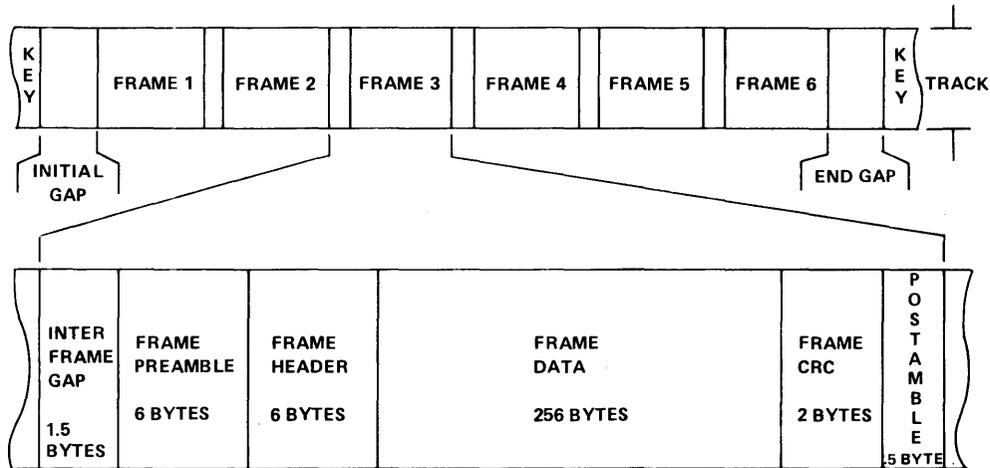

FIG. 7 DC600HC Data Block Format
**DATA BLOCK FORMAT**—Each data block consists of six frames: four with 256 bytes of actual data in and two with error correction data. The format of each frame is the same. See Figure 7.